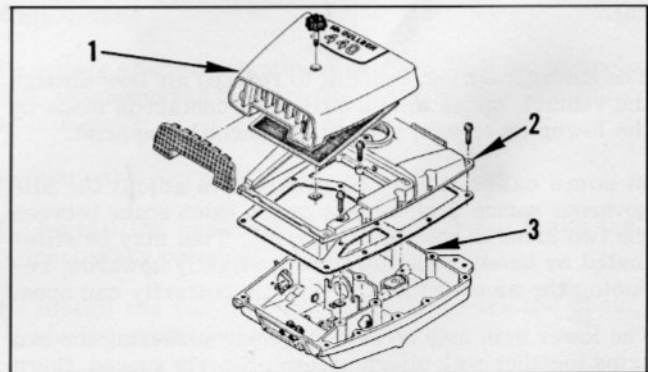

Figure 25. Fuel Tank Assembly
Structurally, the tank is a connected three-piece assembly (see Figure 25), consisting of the following: air cleaner cover (1), fuel tank cover (2), fuel tank bottom assembly (3). The fuel tank bottom assembly has a center dividing wall to separate the airbox portion from the fuel tank. This wall has a matching upper divider in the tank cover. Fuel delivery, from the tank to the carburetor, is accomplished by means of hose connections from the tank pickup, through the cover wall, to the carburetor inlet tube.